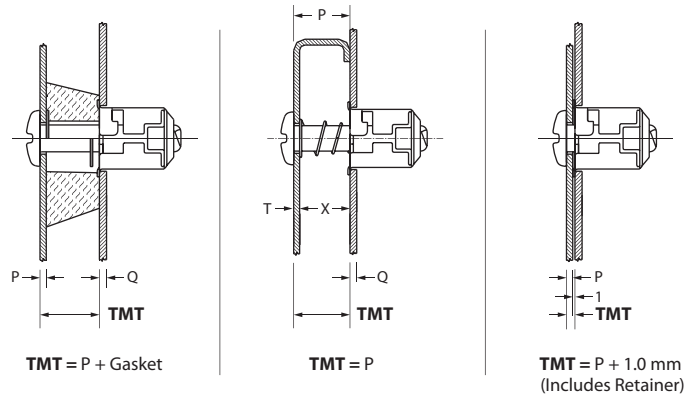

Figure 1: Total Material Thickness (TMT)
1. Calculate the Total Material Thickness (TMT) using figure 1 below.